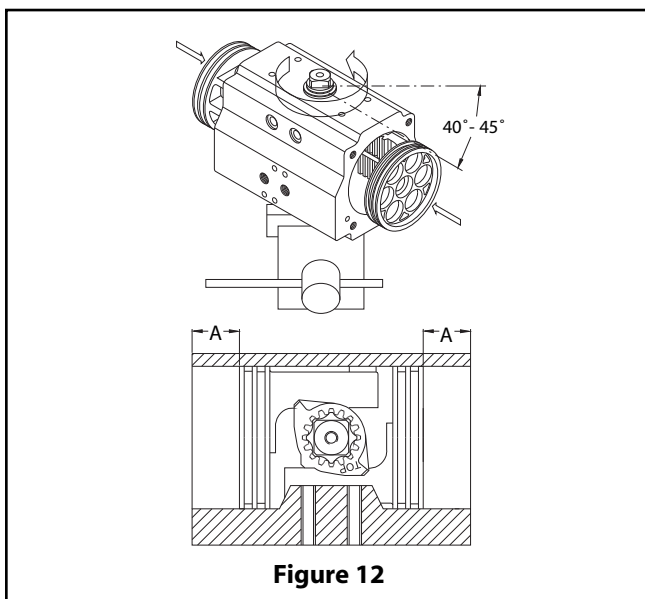

Figure 12
- E. For standard-rotation assembly (clockwise to close) rotate the body (50) 40 – 45° counterclockwise (if viewing the bottom of the actuator), or clockwise (if viewing the top of the actuator) as shown in **(Figure 12)**.
- F. Press the two pistons (40) simultaneously into the body (50) until the piston racks are engaged and rotate the body clockwise (if viewing the bottom of the actuator), or counter-clockwise (if viewing the top of the actuator), until the stroke is completed.
- G. To ensure that the piston (40) teeth are evenly engaged, fully compress both pistons (40) inward and measure the distance from the edge of the body to the piston (40) face on each side, shown as dimension "A" in **(Figure 12)**. If a different value is obtained on each side, remove the pistons and repeat from step 2d.